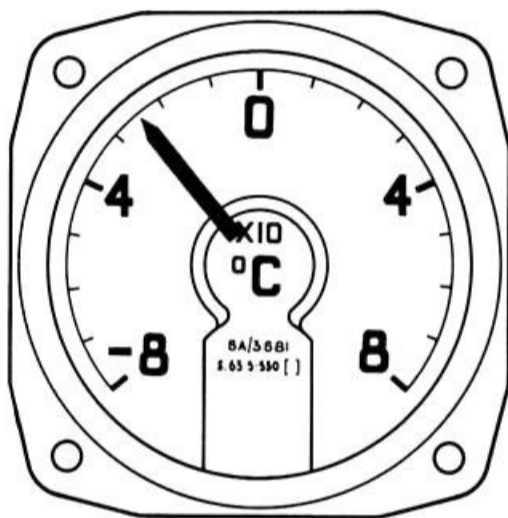

Fig. 1. Indicator, Type S63.5.530
1. This temperature indicator (Ref. No. 6A/3681) (fig. 1) is calibrated in degrees C from -80 to $+80$; the indicator is controlled by the variation of resistance with temperature of a resistance thermometer element which obeys a platinum law.